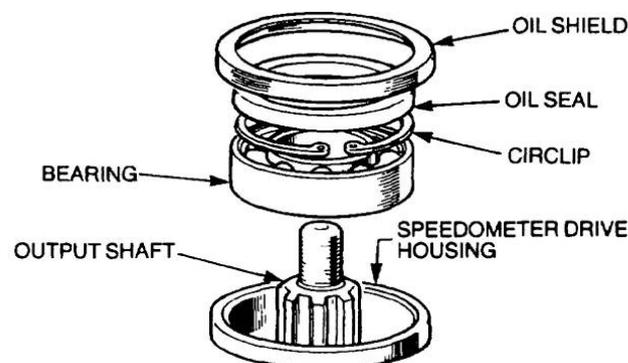

Figure 206 Removal of the Output Shaft
- o. Remove the eight bolts and lock-washers retaining the speedometer drive housing to the transfer case, remove the housing complete with the output shaft. Remove the oil shield, oil seal, and circlip (Figure 206), using a suitable press, remove the output shaft and bearing.